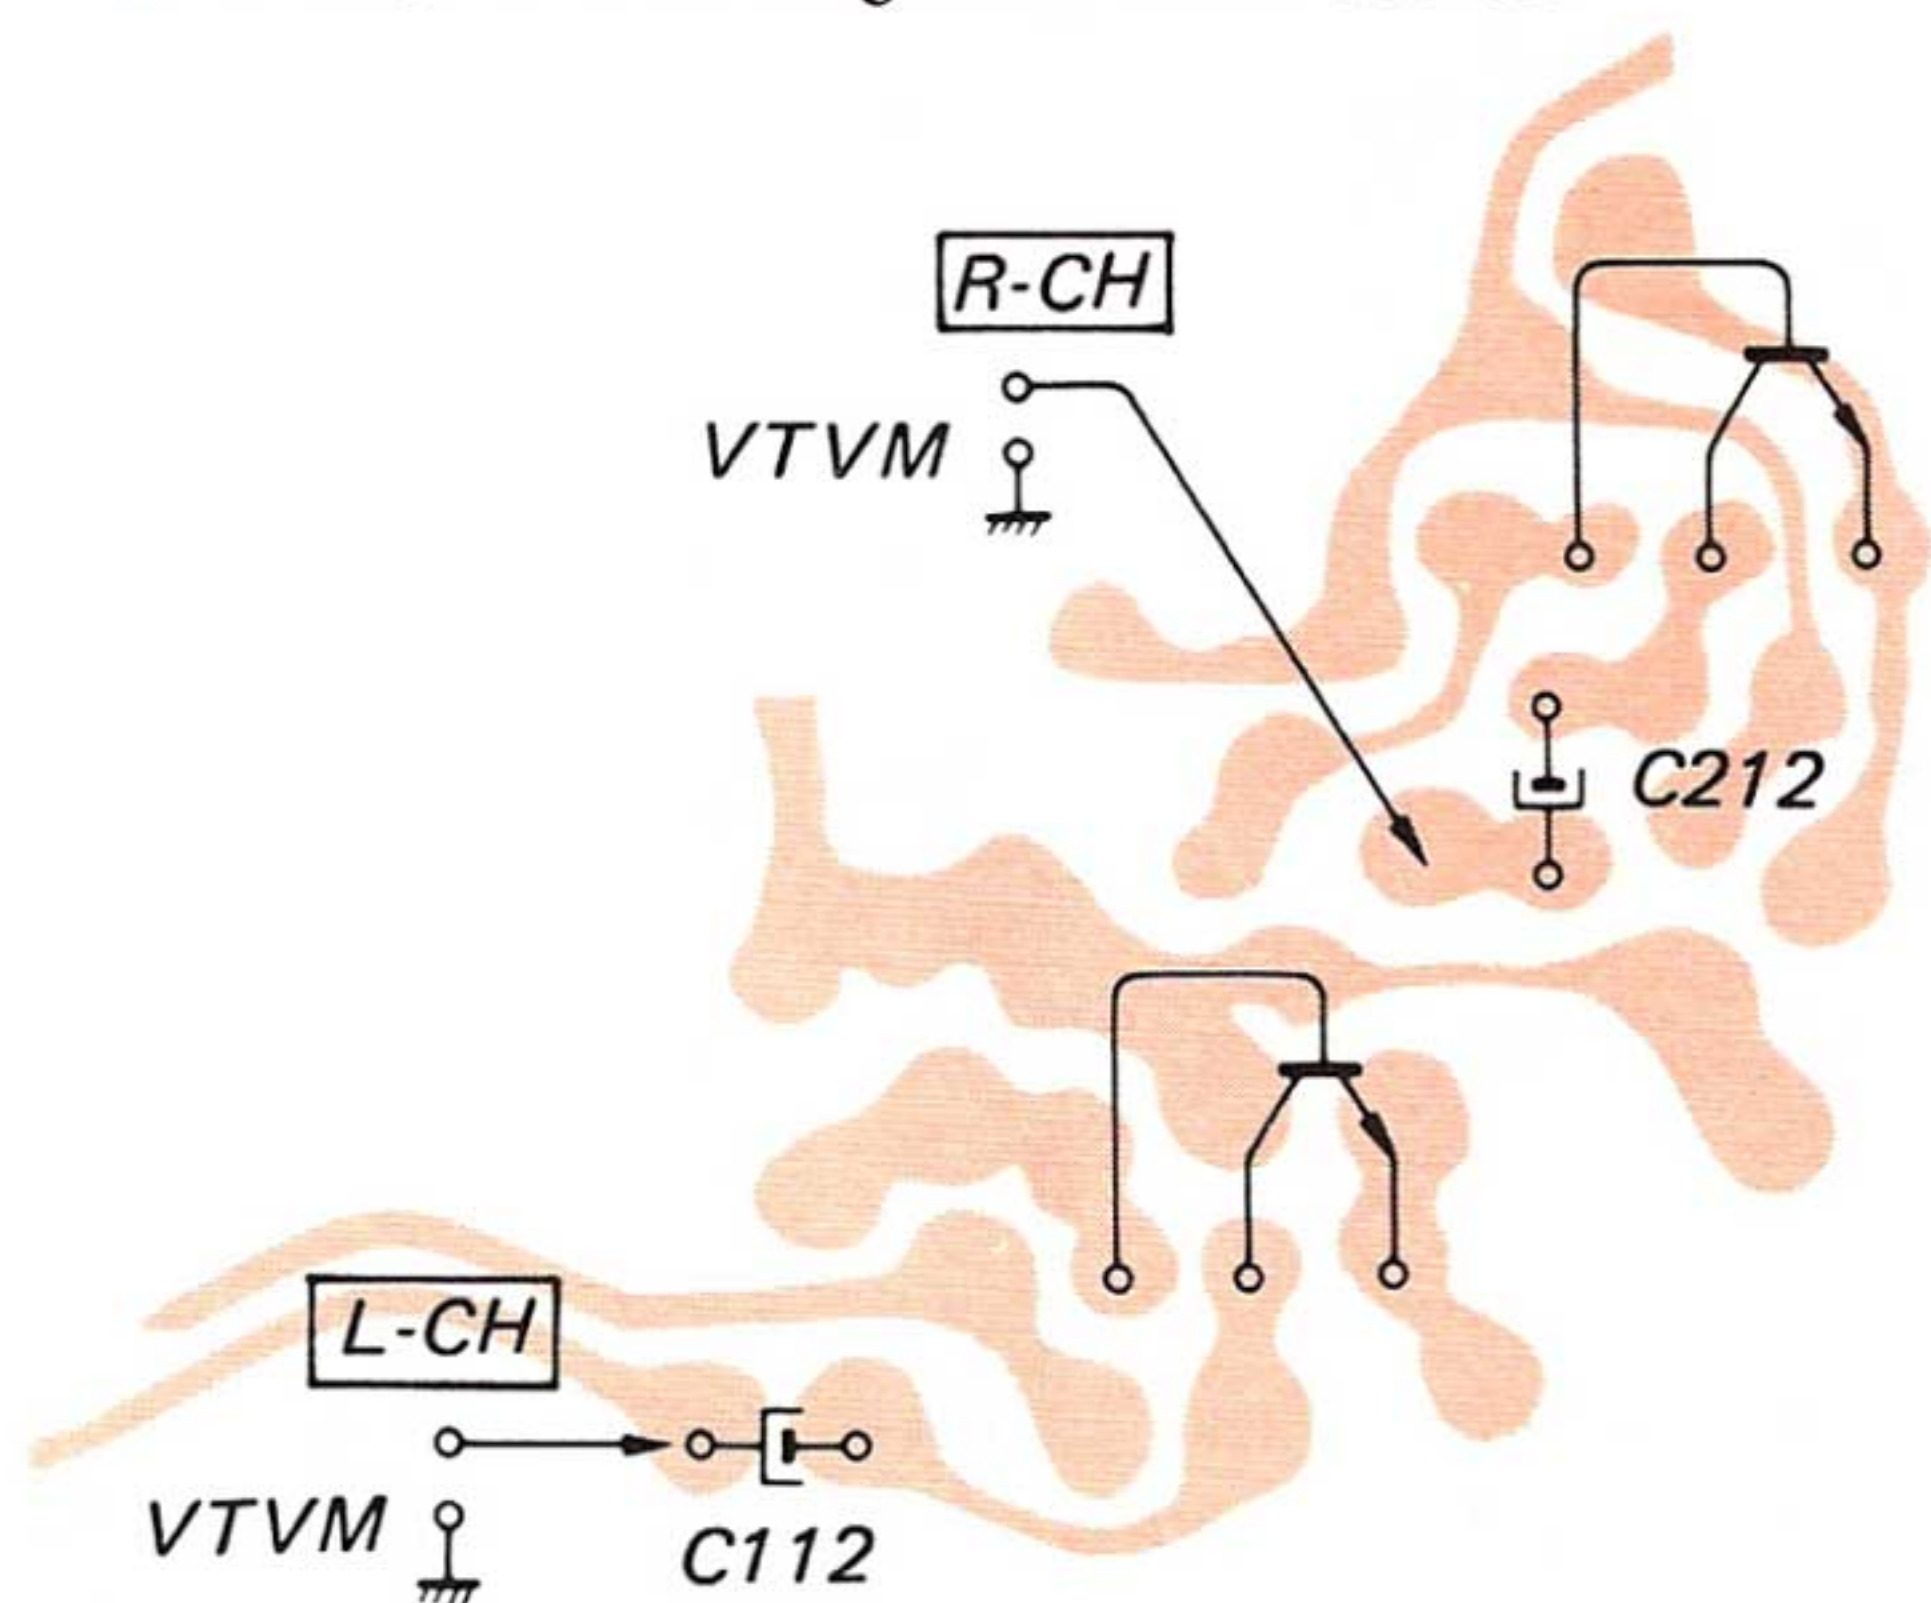

Fig. 3-2-12. Trap coil adjustment
Step 1. Connect a VTVM across the check point and ground as shown in Fig. 3-2-12.